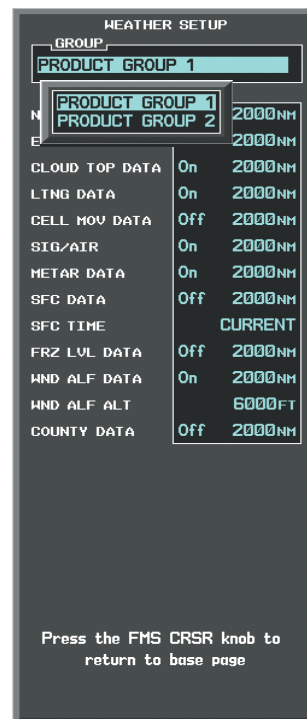

Figure 6-5 Weather Data Link (XM) Page Setup Menu
- 4) Turn the small **FMS** Knob to select 'PRODUCT GROUP 1' or 'PRODUCT GROUP 2', and press the **ENT** Key (Figure 6-5).
- 8) Press the **FMS** Knob or **CLR** Key to return to the Weather Data Link (XM) Page with the changed settings.